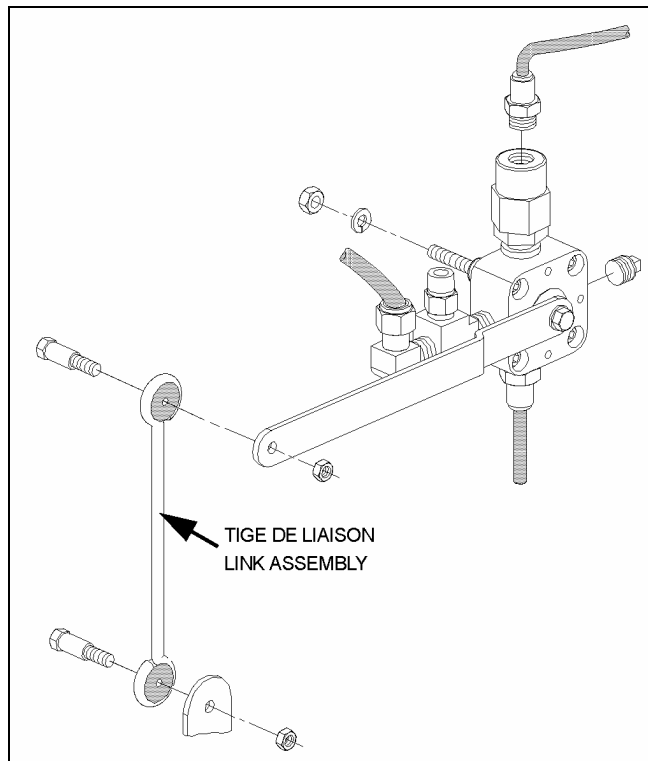

FIGURE 1
2. Remove the air from the drive axle support frame air springs. To do so, dismantle the link assembly from the height control valves (Refer to figure 1). Lower the valve lever to purge the air from the air springs.